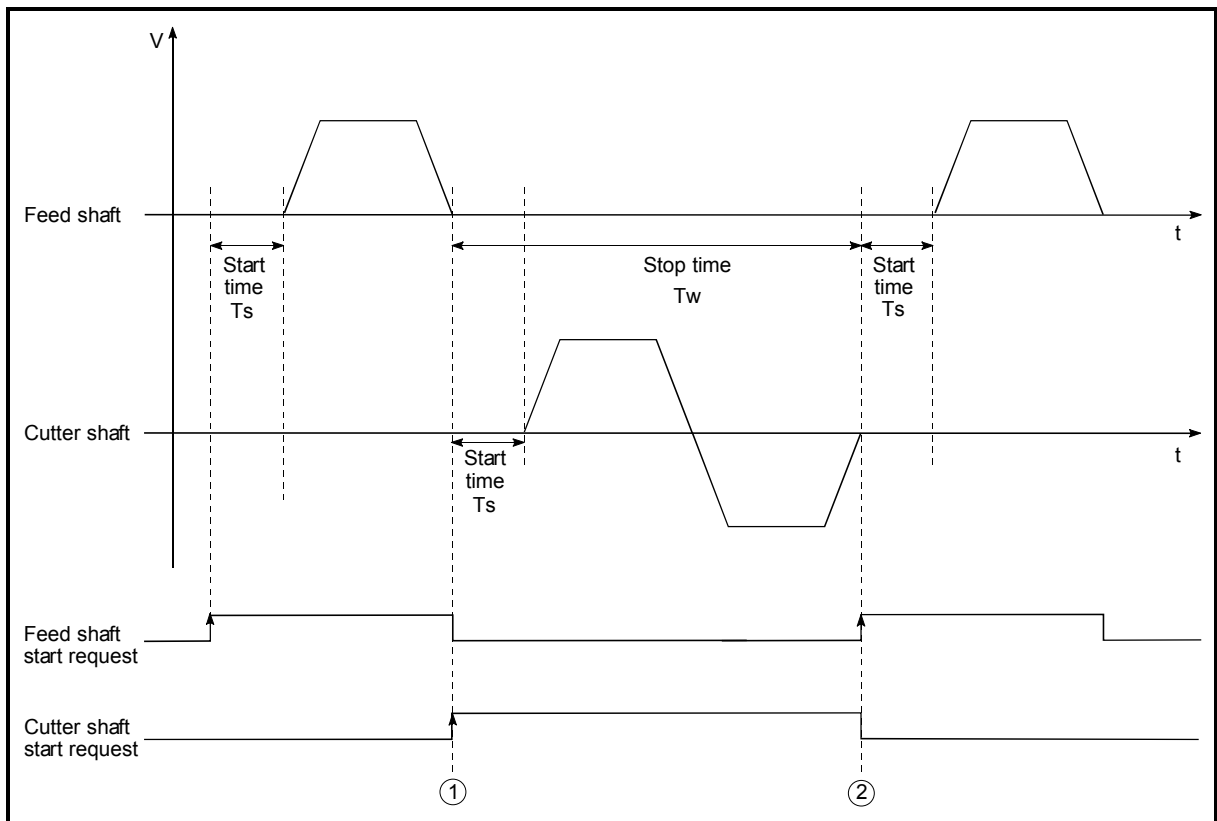

Fig. 12.50 Operation timings of system example
to cut the stock to fixed size. The operations of the feed shaft and cutter shaft are represented as shown in Fig. 12.50.
In Fig. 12.50, the feed shaft stands by during the stop time T_w .
- (1) The time required to analyze the positioning data is up to 4.0ms.
- (2) After positioning data analysis, the system is put in an execution prohibition flag OFF waiting status. Any change made to the positioning data in the execution prohibition flag OFF waiting status is not reflected on the positioning data. Change the positioning data before turning ON the positioning start signal.
- (3) The pre-reading start function is invalid if the execution prohibition flag is turned OFF between when the positioning start signal has turned ON and when positioning data analysis is completed (Ta < start time, Ta: Refer to Fig. 12.50).
- (4) The data No. which can be executed positioning start using "[Cd.3] Positioning start No." with the pre-reading start function are No. 1 to 600 only. Performing the pre-reading start function at the setting of No. 7000 to 7004 or 9001 to 9004 will result in an outside start No. range error (Error code: 543).
- (5) Always turn ON the execution prohibition flag at the same time or before turning ON the positioning start signal. Pre-reading may not be started if the execution prohibition flag is turned ON during Ta after the positioning start signal is turned ON. The pre-reading start function is invalid if the execution prohibition flag is turned ON after positioning start (pulse output) with the execution prohibition flag OFF. (It is made valid at the next positioning start.)